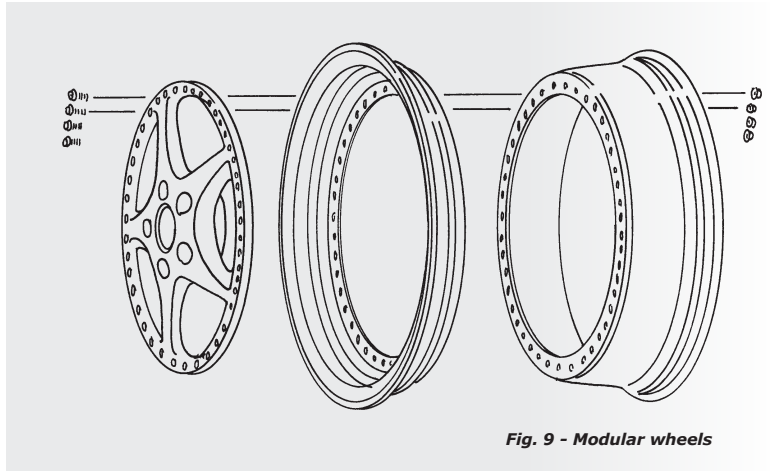

Fig. 9 - Modular wheels
- OZ also includes some modular wheels in its collection (fig.9), that are made from separate pieces that are fastened together, rather than a single cast piece, as with traditional wheels.